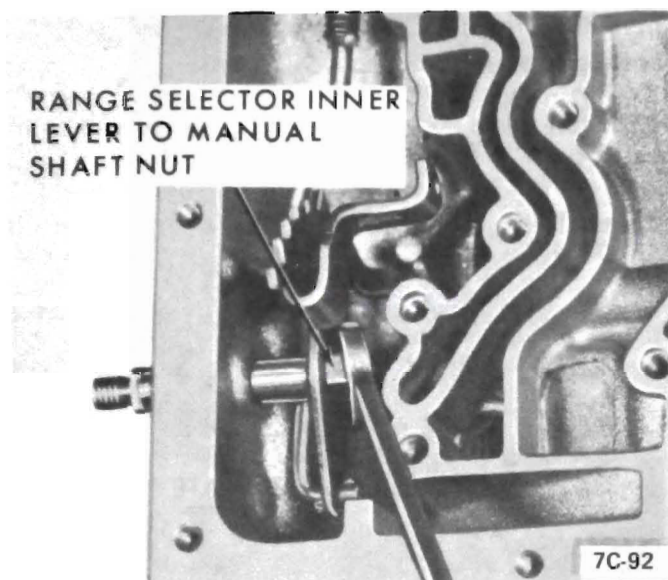

Figure 7C-174
2. Install four (4) check balls into correct transmission case pockets. See Figure 7C-176.